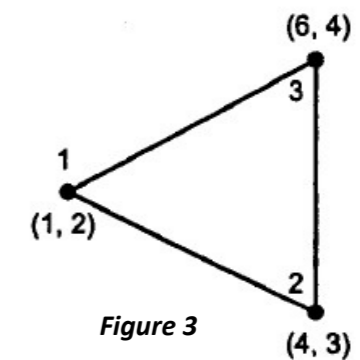

Figure 3
- 13. (a) The nodal co-ordinates of the triangular element are shown in Figure 3. At the interior point P, the x co-ordinate is 3.5 and $N_1 = 0.4$, calculate N_2, N_3 and the y coordinate at point P. (14) 3 3